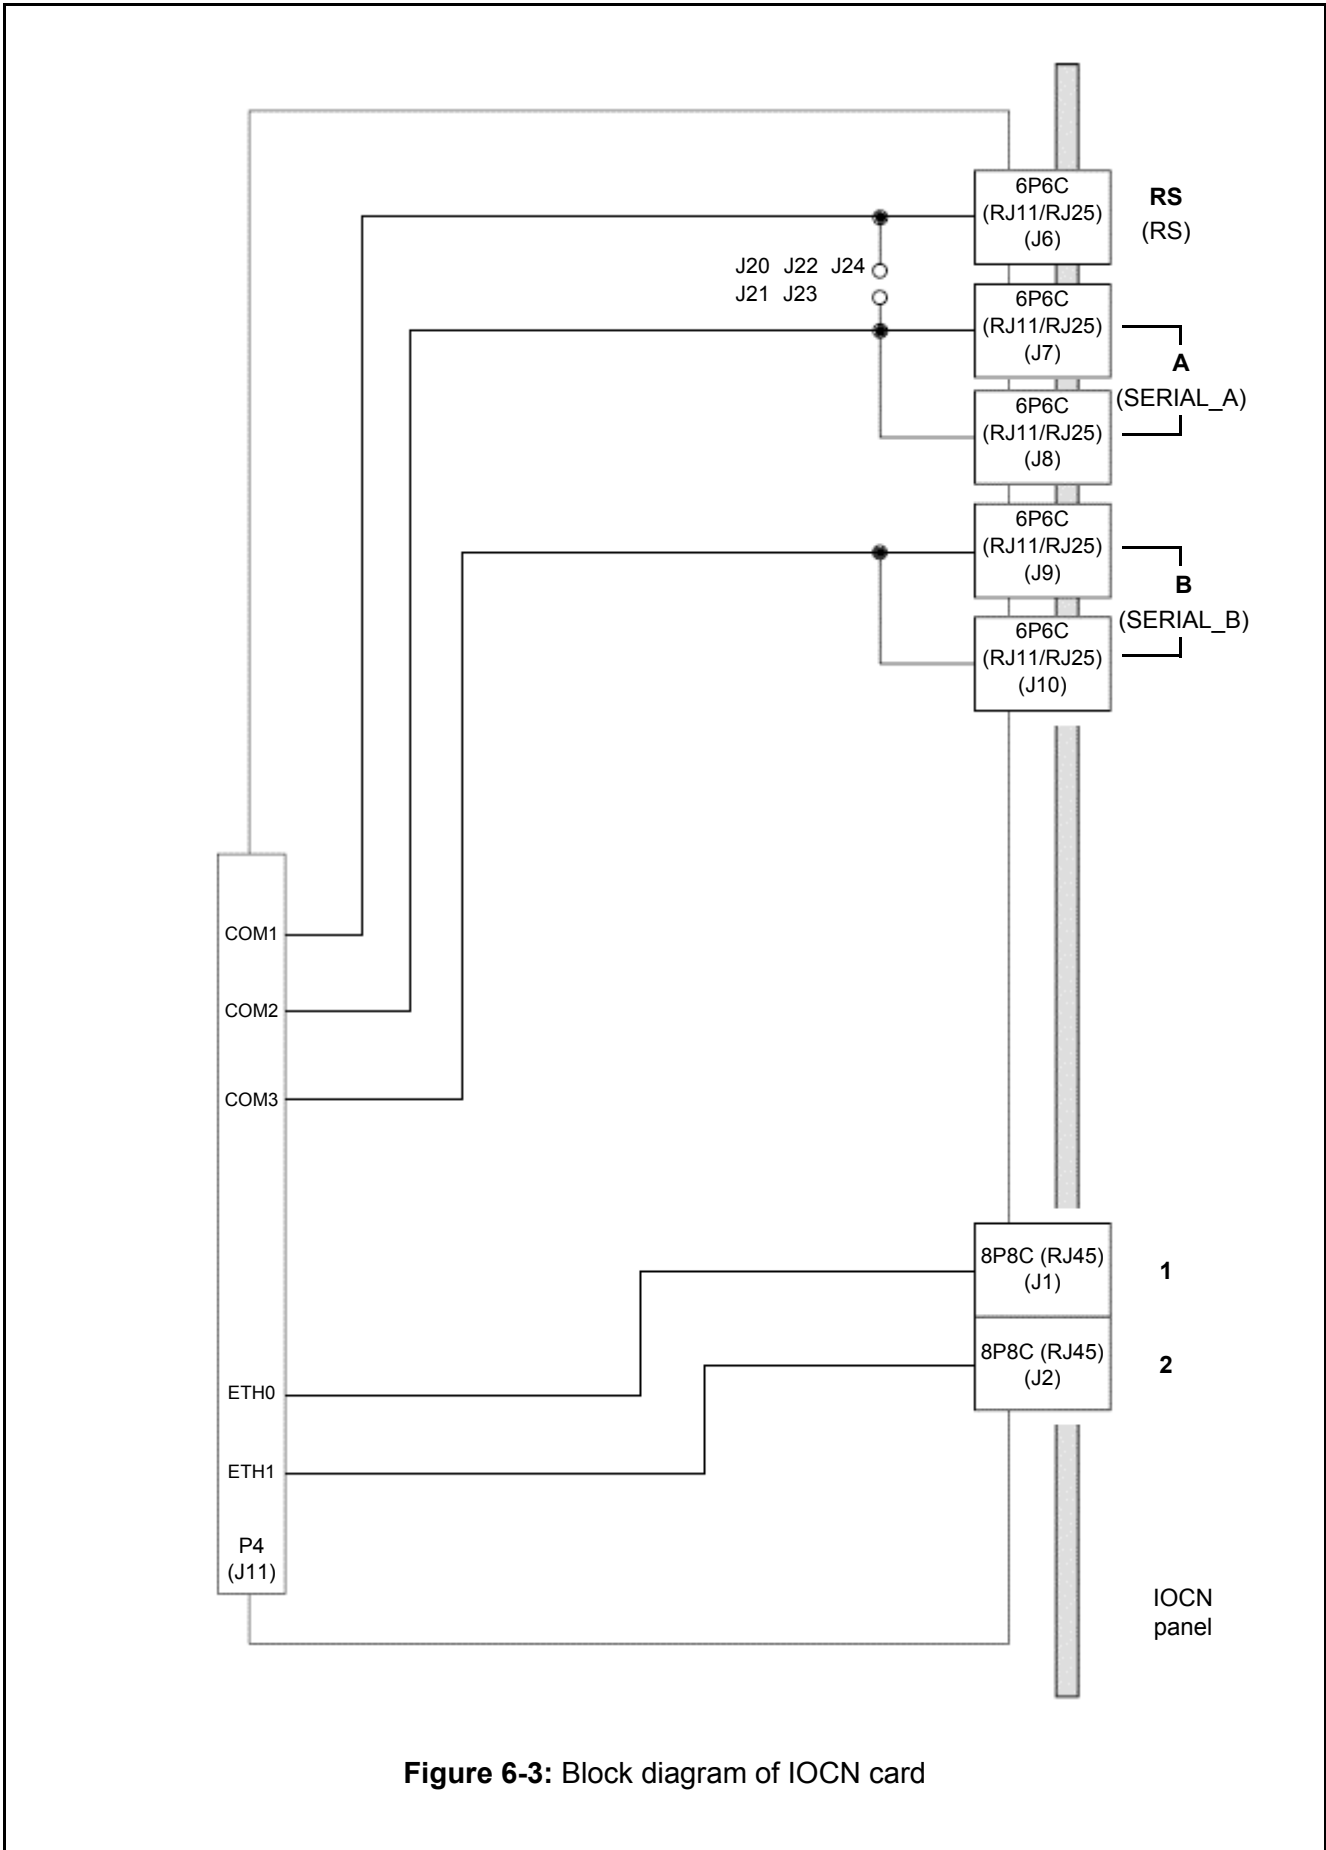

Figure 6-3: Block diagram of IOCN card
Figures 6-3 shows a block diagram of the IOCN card.
- The serial port on the card's panel, shown as **RS** (COM1) in Figure 6-3, corresponds to the RS device in the `modbusDefault.cfg` configuration file.
- The serial ports on the card's panel, shown as **A** (COM2) in Figure 6-3, correspond to the SERIAL_A device in the `modbusDefault.cfg` configuration file.
- The serial ports on the card's panel, shown as **B** (COM3) in Figure 6-3, correspond to the SERIAL_B device in the `modbusDefault.cfg` configuration file.